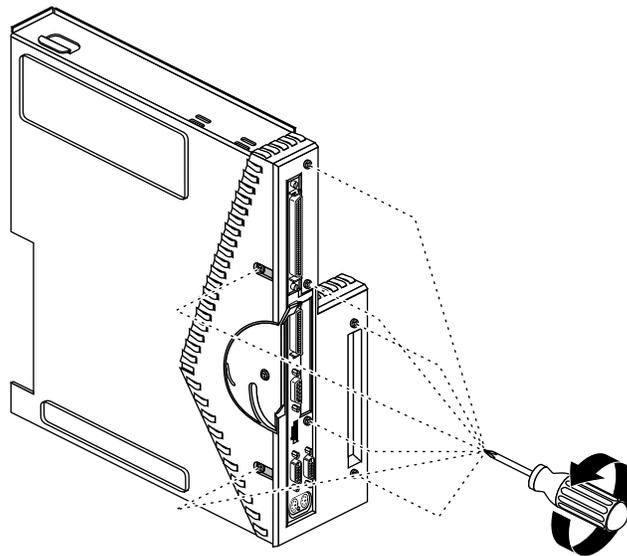

Figure 1-9 Removing the Screws from the Face Plate: R10000 Class Workstation
- Use the Phillips screwdriver to remove five screws from the rear and two screws from the underside of the system module (Figure 1-9).